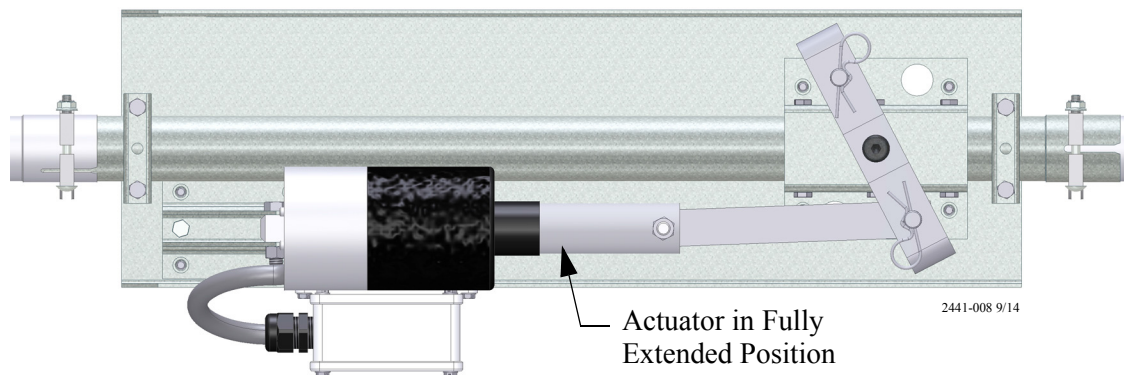

Figure 69. Actuator in Fully Extended (Open) Position
- Manual/Automatic switch in the manual position. Manually operate one actuator at a time running the actuator to the extended (Open) position, see figure 69.